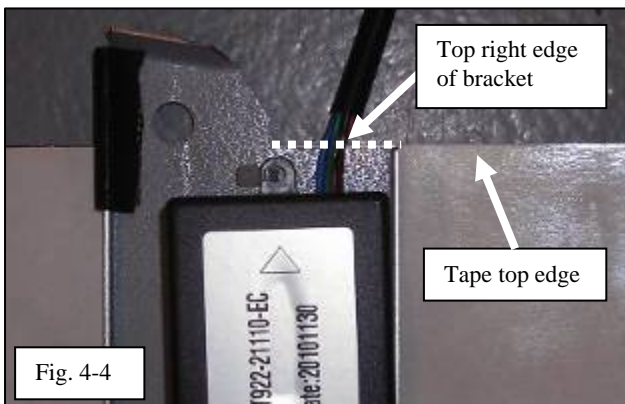

Fig. 4-4
- (1) Orient the wire tie so that the head is on the front side of the bracket.
- (6) Trim the wire tie.
- (7) Align the large foam tape to the ECU so that the top edge of the tape lines up to the top right edge of the bracket. (Fig. 4-4)